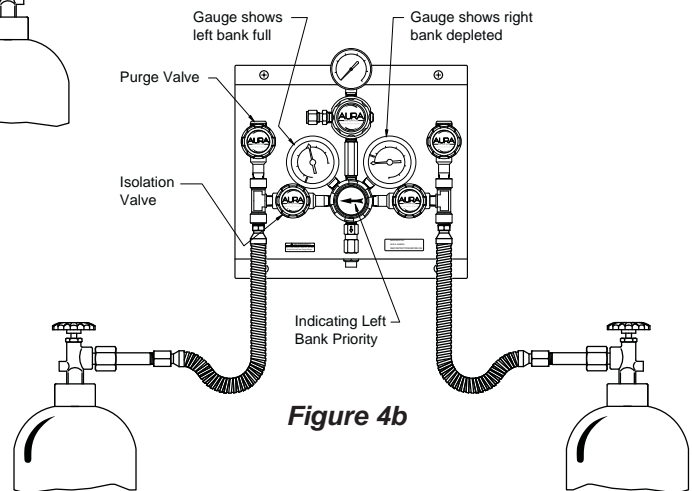

Figure 4b
7. If both banks are high pressure cylinders, rotate the EXD Pressure Differential Switchover priority valve away from the depleted cylinder bank as illustrated in Figure 4b.